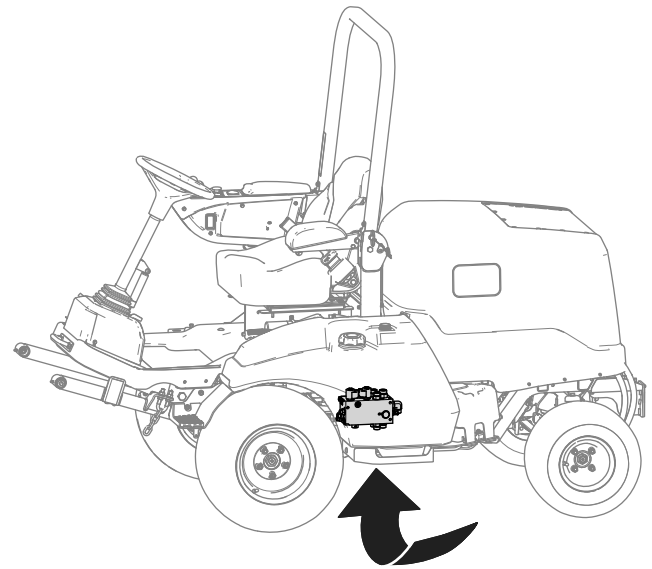

Figure 23
- Locate the lift manifold from under the machine (Figure 23).